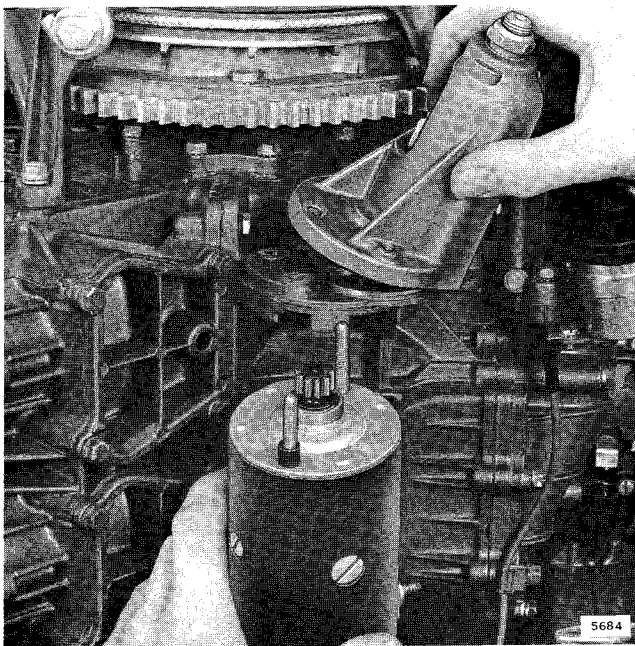

Figure 7-7. Removing Starter and Drive
- c. Starter motor can be dropped from starter drive housing. If it is necessary to remove starter drive housing, loosen screw and remove starter drive from crankcase. See Figure 7-7.